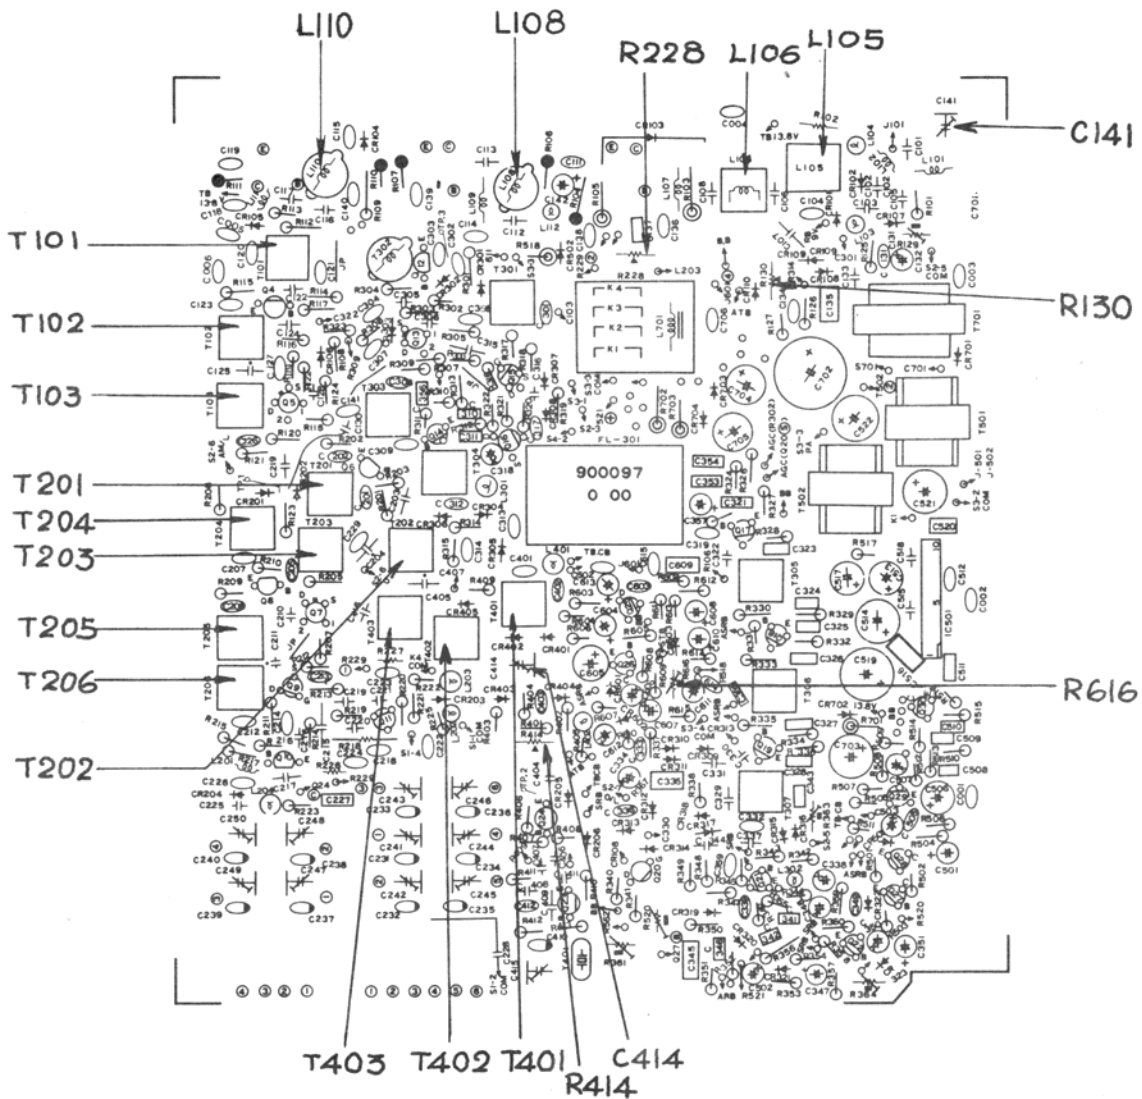

Figure 4-3 Transmitter Adjustment Locations
3. Preset trimmers (see Figure 4-3) in the transceiver as follows:
4. Adjust T103, T102, T101, L110, L108, and L106 (see Figure 4-3) for maximum output indication on the wattmeter.
3. Adjust T403, T402, T203, T202, and T201 (see Figure 4-3) for a maximum reading on the wattmeter.